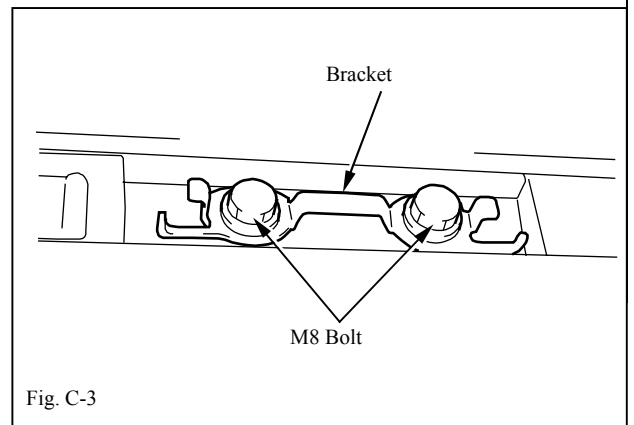

Fig. C-3
5. Using a 12mm socket, remove and discard the eight M8 bolts. (Fig. C-3)